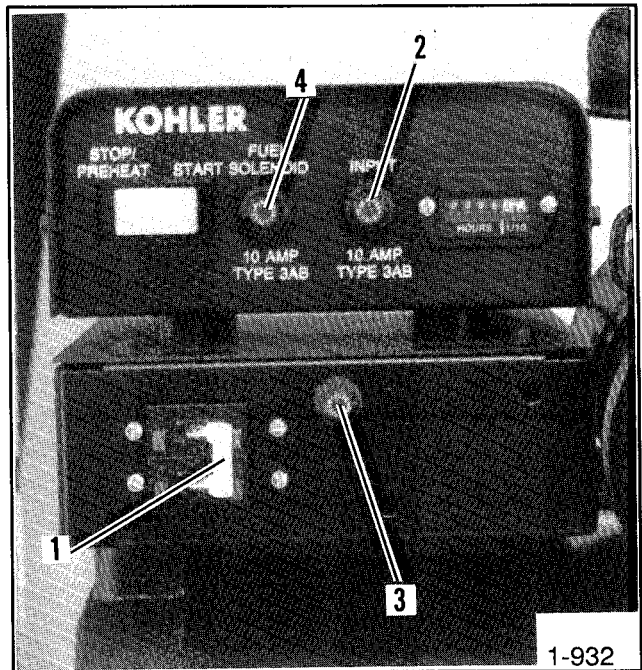

Figure 2-6. Circuit Protection.
Refer to Figure 2-6 and the following descriptions to identify controller components.
2. **Input (Controller) Fuse (10 Amp)** protects controller circuitry. If the generator will not crank and the battery and/or connections appear okay, the controller fuse may be "blown". If this fuse is replaced then "blows" again, find the cause of the problem. Location of the Controller fuse is shown in Figure 2-6.
3. **Voltage Regulator Fuse (10 Amp)** protects the voltage regulator circuitry. If this fuse is "blown," the generator set will shutdown. If this fuse is replaced then "blows" again, find the cause of the problem. Location of the Voltage Regulator Fuse is shown in Figure 2-6.
4. **Fuel Solenoid Fuse (10 Amp)** protects the fuel solenoid. If this fuse is "blown," the generator will shut down. If the fuse is replaced then "blows" again, find the cause of the problem. Location of the Fuel Solenoid Fuse is shown in Figure 2-6.